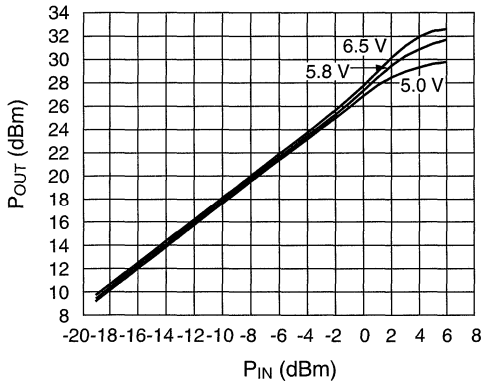

Figure 3. P_{OUT} vs. P_{IN} Over Drain Voltage
3. Performance in Figures 3, 4 and 7 is with a 1.88 GHz CW input signal.